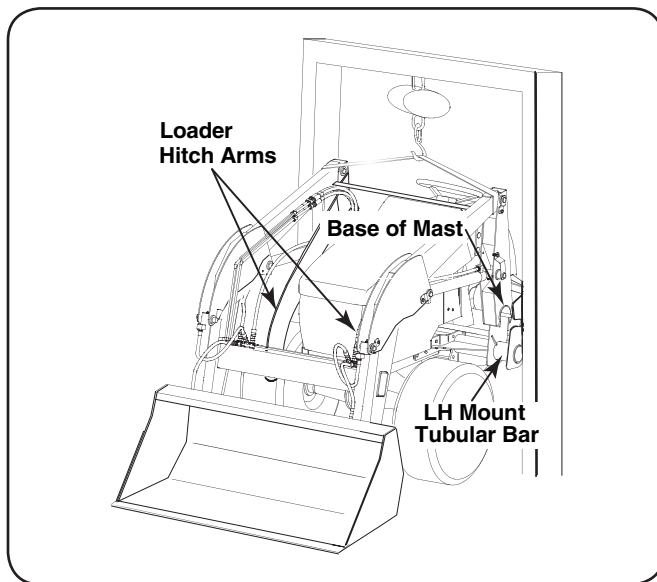

Figure 5
- Using the overhead lift apparatus, raise the loader so that the bottoms of the masts are high enough to clear the front axle/tire of the tractor and the tubular bars of the RH and LH loader mounts. Refer to Figure 5.